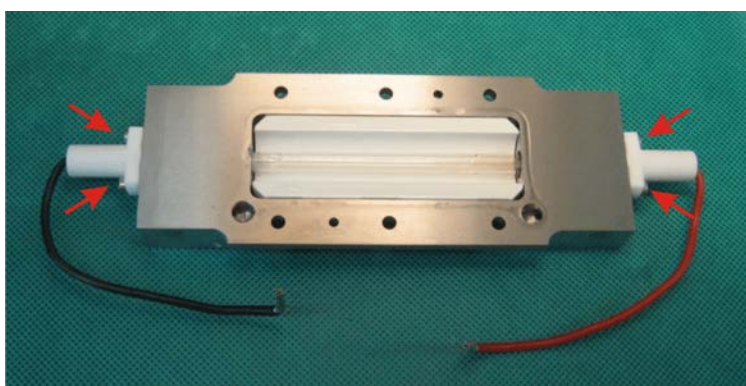

Figure 27 Removing lamp end caps
9. Unscrew the screws fixing the lamp end caps and pull the caps off; see Figure 27.